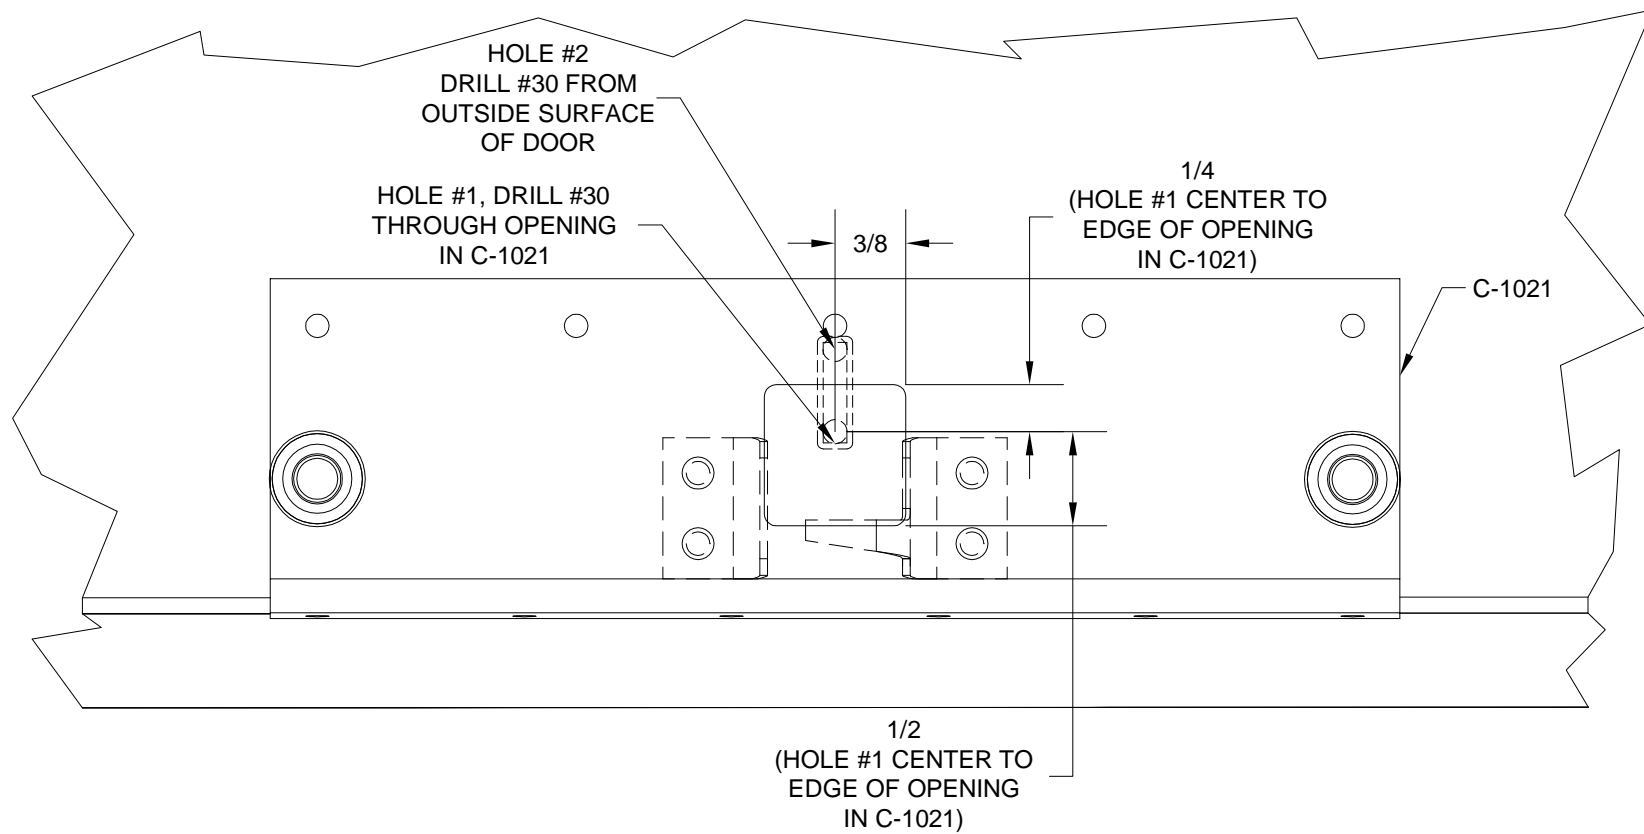

FIGURE 2:
Step 1: Looking through the opening in the C-1021 Latch Angle Assembly, make a mark on the inside surface of the outer skin of the C-1002-L Door. Locate the mark according to the "hole # 1" dimensions in Figure 2.
Drill #30 through the door outer skin at the "hole #1" location called-out in Figure 2.
Step 2: Turn the door over and drill a second #30 hole located 7/16 inch above the hole drilled in step 1. This hole is called-out as "hole #2" in Figure 2.